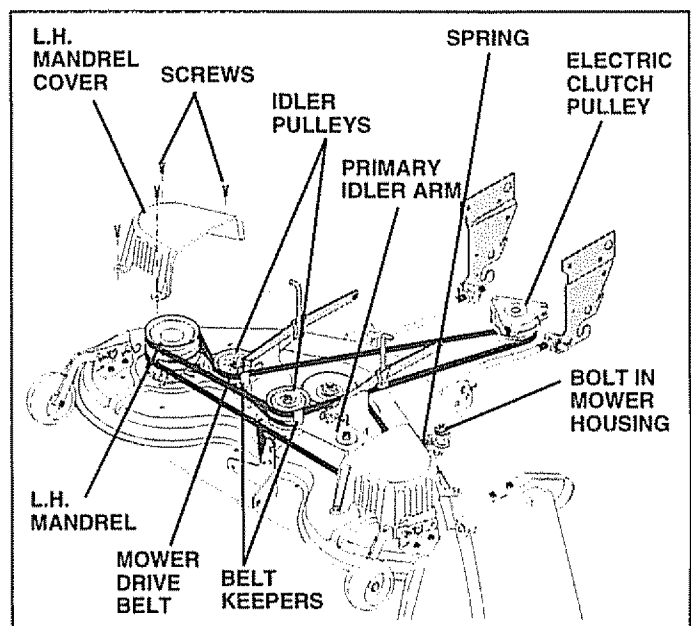

FIG. 22
**MOWER DRIVE BELT REMOVAL** (See Fig. 22) -
**MOWER DRIVE BELT INSTALLATION** (See Fig. 22) -